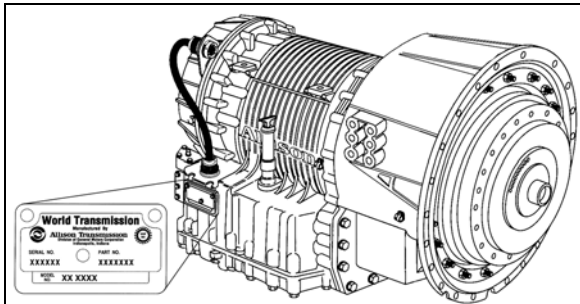

FIGURE 2: ALLISON TRANSMISSION 07076
The transmission identification plate is located on the oil level dipstick side of the transmission (WT) or on transmission (I-Shift) (Fig. 2 & 3). The identification plate shows the transmission serial number, part number (assembly number), and model number. Use all three numbers when ordering parts.